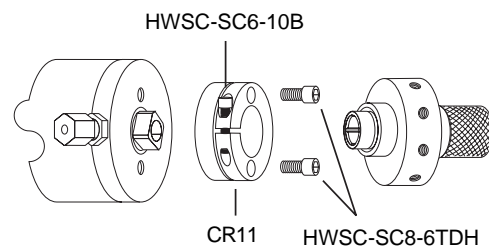

Figure 1: Closemount valve removal
Closemount valve (Figure 1)
5. Replace the valve mounting hardware (**Figure 1** or **2**) and slide the valve or standoff into the clamp ring, making sure that the square hole in the valve coupling or in the end of the standoff driveshaft is fully engaged by the square of the actuator drive shaft. Tighten the clamp ring screw and reinstall the air fittings and supply lines.